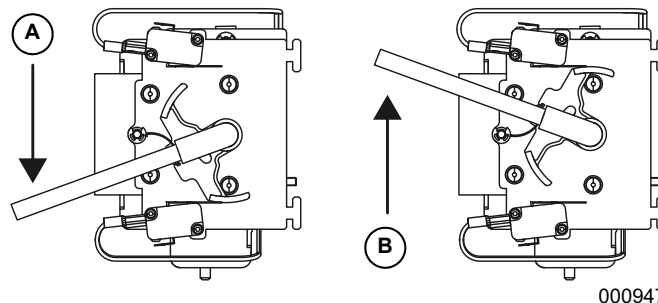

Figure 3-4. Manual Transfer Switch Operation
4. Use the manual transfer handle (A in Figure 3-4) inside the transfer switch to move the main contacts to the STANDBY position (loads connected to the standby power source, B in Figure 3-4).
5. Use the manual transfer handle inside the transfer switch to move the main contacts back to the UTILITY position (loads connected to the utility power source, A in **Figure 3-4**).